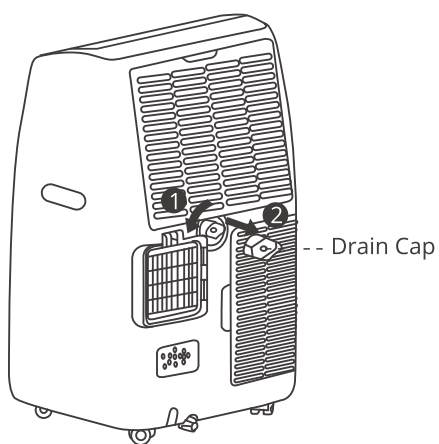

Fig.18
- Remove the drain plug(fig.18). While doing this operation some residual water may spill so please have a pan to collect the water.